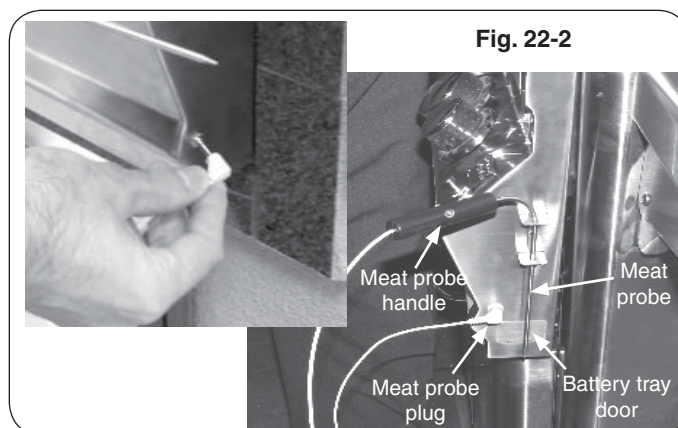

Fig. 22-2
1. Plug the mini-jack side of the meat probe into the plug on the right side of the barbecue face (Fig. 22-2 top).